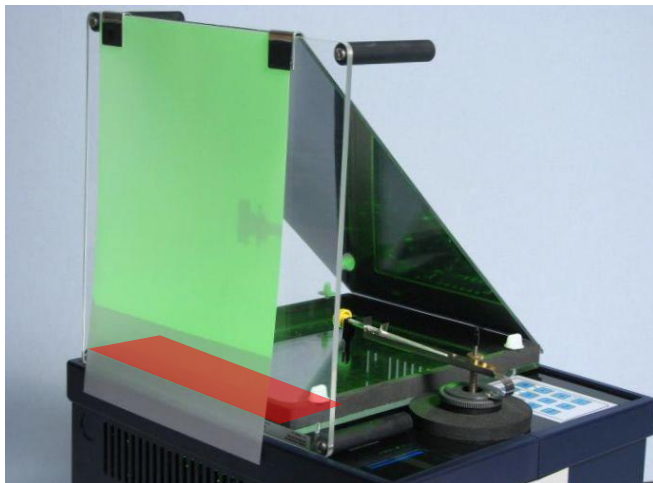

Fig. 2: Ripple tank with drawing table and mirror
Fig. 2: The shadow projection principle – Light from a point light source passes through the wave tray and is partially subject to deflection according to the structure of the surface waves. This deflection generates a bright-dark pattern on a screen.
- The drawing table is positioned tilted upright as shown in figure 2.
To do so, please place a piece of paper or cardboard (dimensions approx. 22 cm x 9.5 cm) right below the wave tray as shown in Fig. 2, red area.